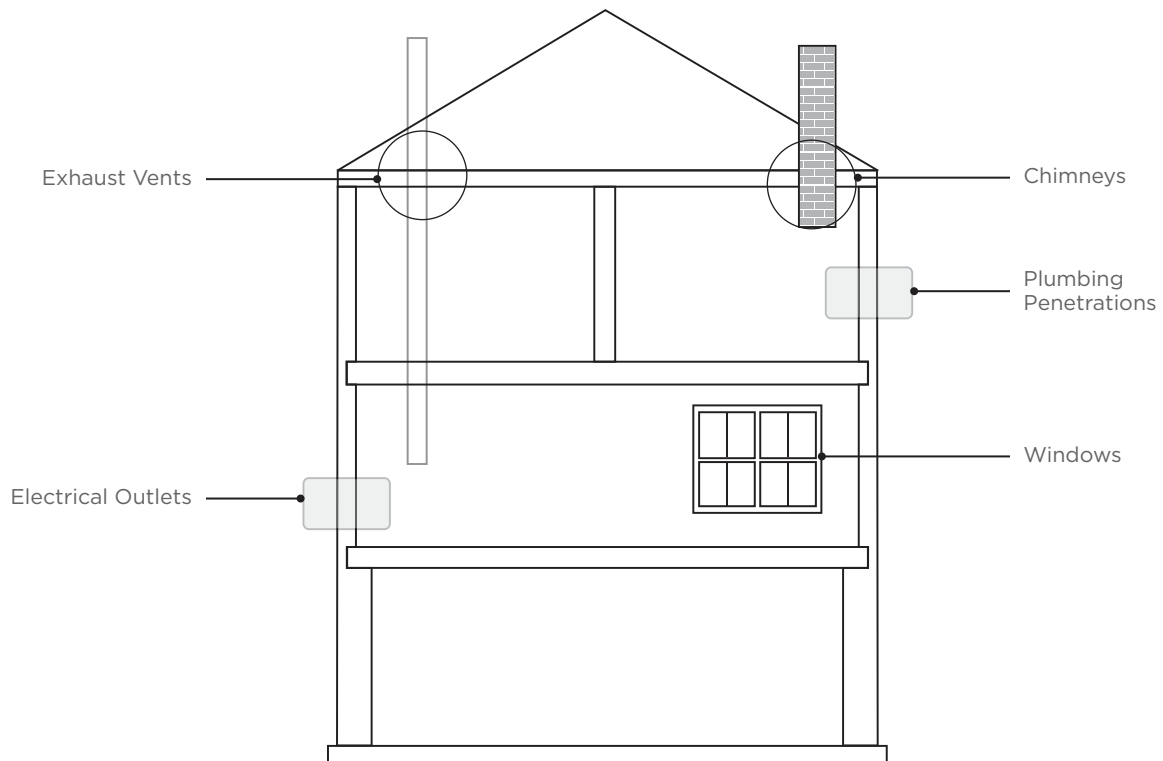

Figure 6: Building envelope penetrations
Figures 6 through 11
- Building envelope penetrations include windows, doors, dryer vents, bathroom exhaust fans, electrical outlets, gas lines, plumbing, etc. (See Figure 6)